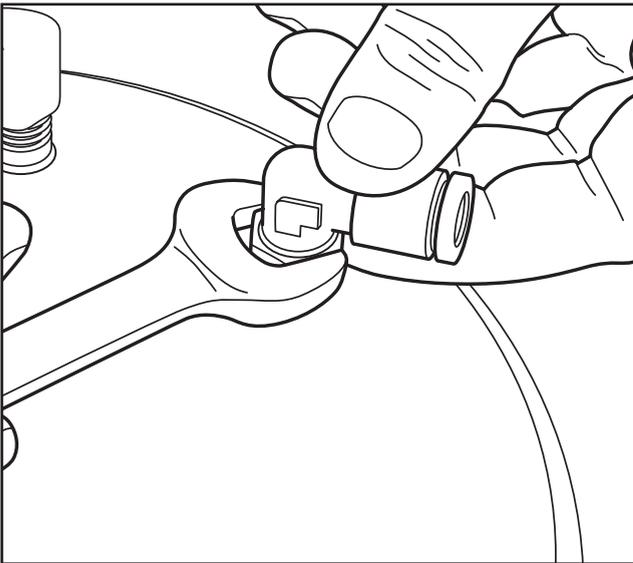

Fig 4.6
1. Fit the air fitting (Fig 4.6).